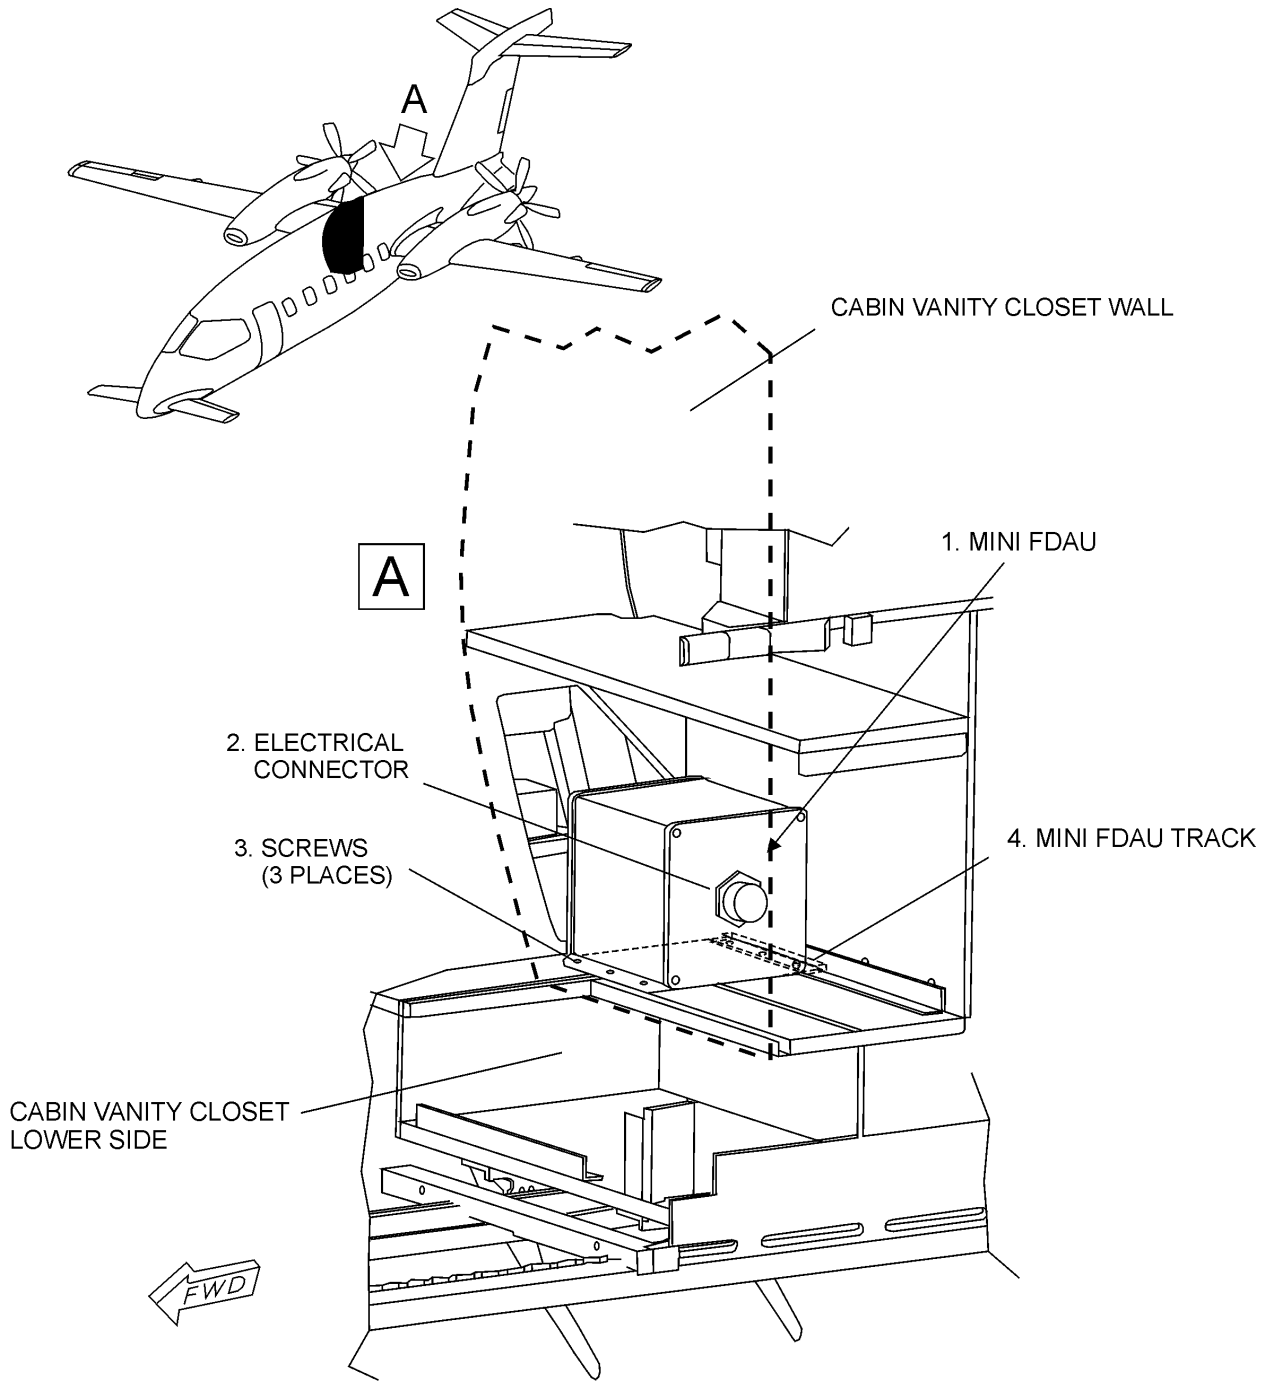

Fig. 202 - Flight Data Acquisition Unit (FDAU) - Removal / Installation
7. CVDR Flight Data Acquisition Unit (FDAU) - Removal (Refer to Fig 202)
8. CVDR Flight Data Acquisition Unit (FDAU) - Installation (Refer to Fig 202)